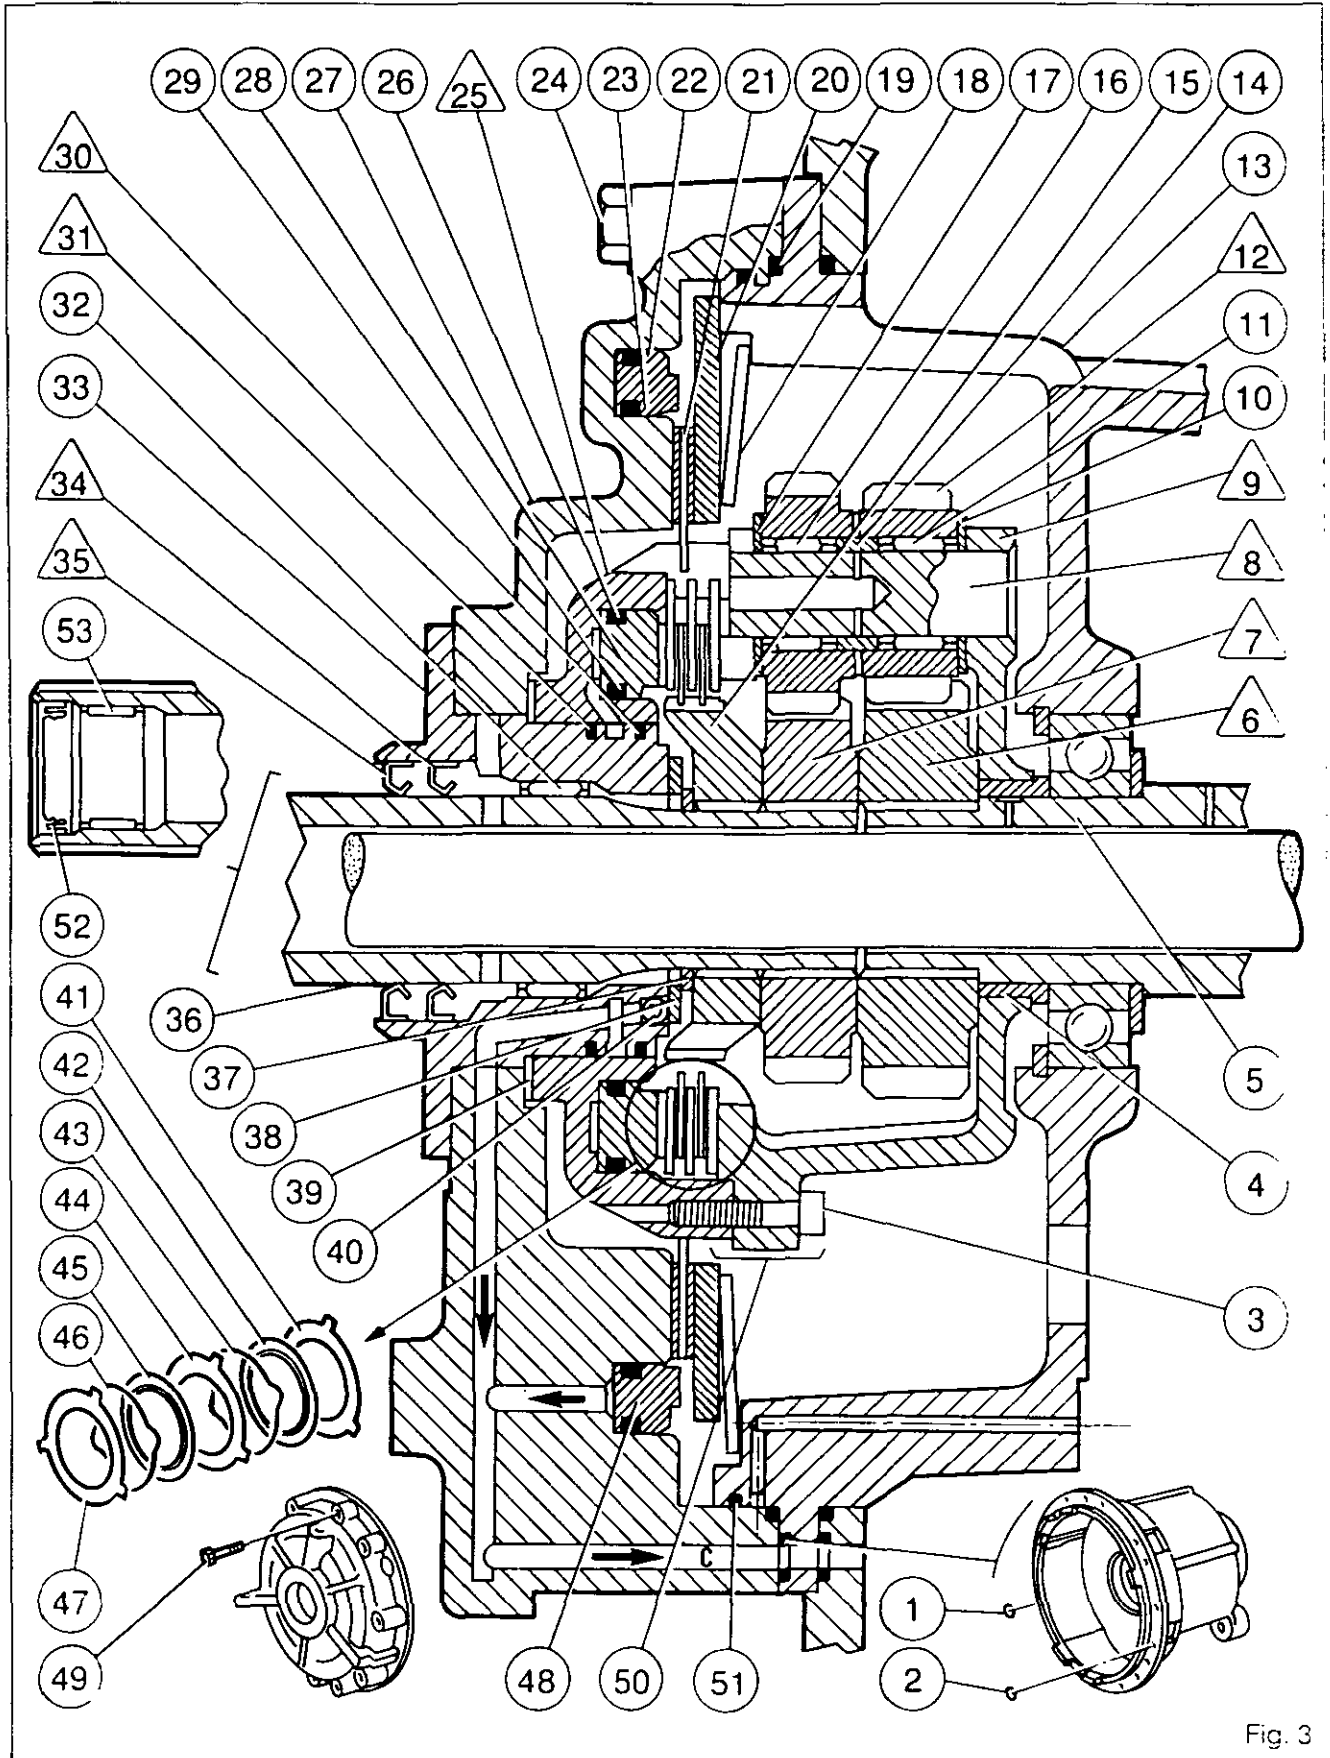

Fig. 3
**Operation****30 Kph and super creeper version : stepdown****40 Kph version : stepup (Fig. 3)**
In this mode (Fig. 3), there is no supply to the hydraulic components and the speedshift operates as a purely mechanical transmission. Oil in chamber of pistons (28) and (48) returns to the housing via the gallery C and the solenoid. The drive from the hollow primary shaft (36) is transmitted to the input sun gear /7\ by the splines which secure the gear to the shaft. Sun gear /7\ drives the compound planetary gears /12\ which are mounted to rotate freely on spindles /8\. The planetary gears in turn drive the output sun gear /6\, which is splined to the hollow secondary shaft (5), in one of the following ratios: 30 km/h 1.26 stepdown - 40 km/h 1.26 stepup - super creeper 7.8 stepdown. Since no hydraulic pressure is applied, the planetary carrier assembly (50) is locked against rotation by a Belleville spring disc (18) which applies pressure to pressure plate (20) and thus stops disc (21) from turning, the latter being locked to the planetary carrier assembly in rotation by splines.